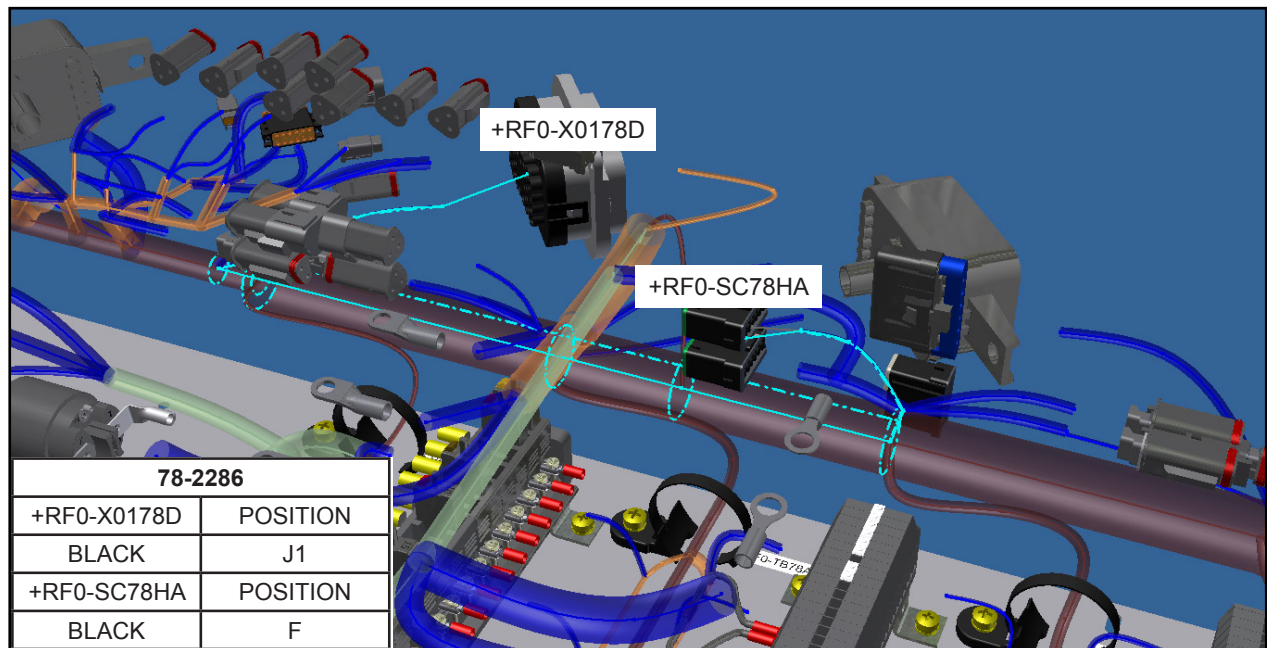

Figure 13 - Connectors and Terminals Positions
1.22. Connect the wire 78-2286 to +RF0-X0178D and +RF0-SC78HA (see Figure 13).